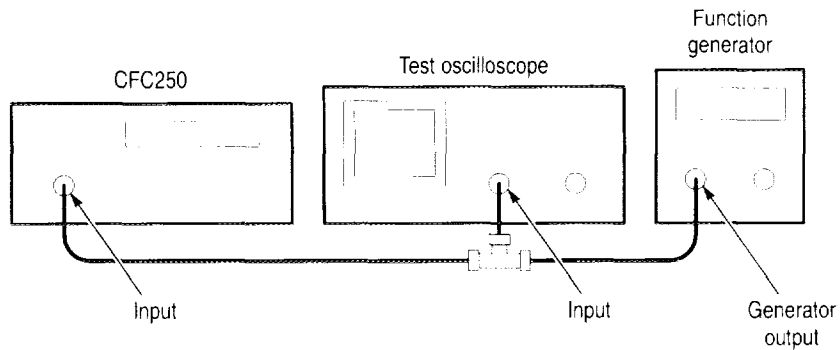

Figure 3: Functional Check Setup
5. Connect the signal from the generator with a BNC T connector to the oscilloscope and the **INPUT** connector of the CFC250 Frequency Counter as shown in Figure 3.